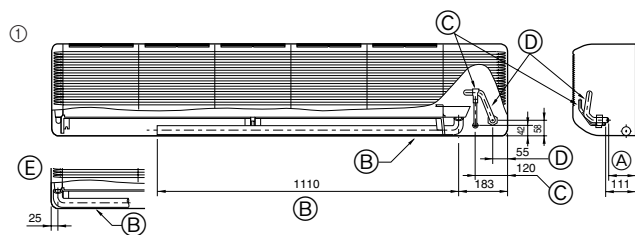

Fig. 4-3
- ① Position of refrigerant and drain piping (Fig. 4-3)